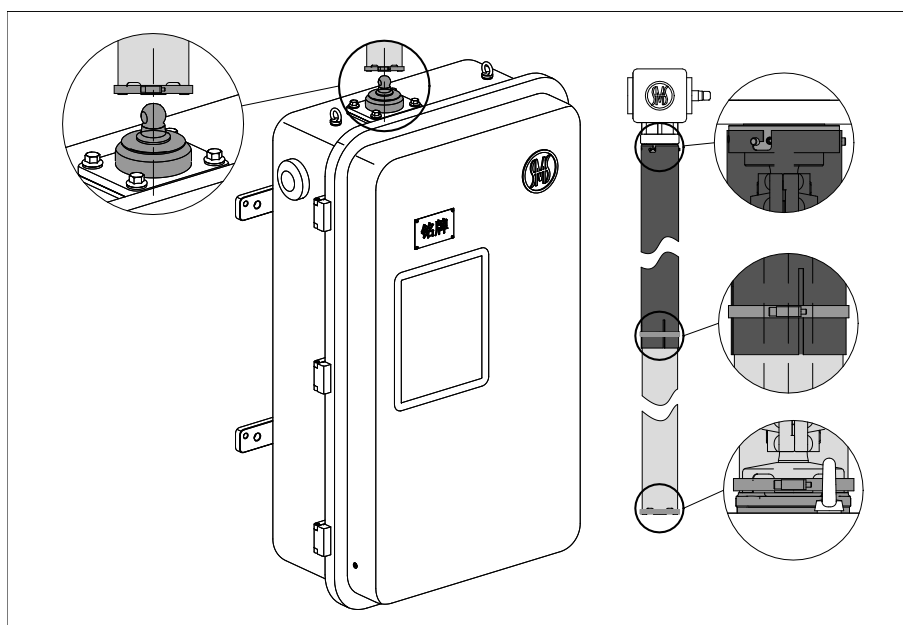

Figure 5-11 Install the vertical guard
3. Slide the vertical guard upward onto the lower end of the bevel gearbox, ensuring it sleeves over the bushing. Align the three grooves on the guard with the three cylindrical pins. Rotate the guard until the pins snap into the grooves (see Figure 5-11).
4. Slide the thinner lower guard onto the output shaft of the CMA7 (see Figure 5-11).
5. After positioning both guards in place, secure them with two clamps (see Figure 5-11).